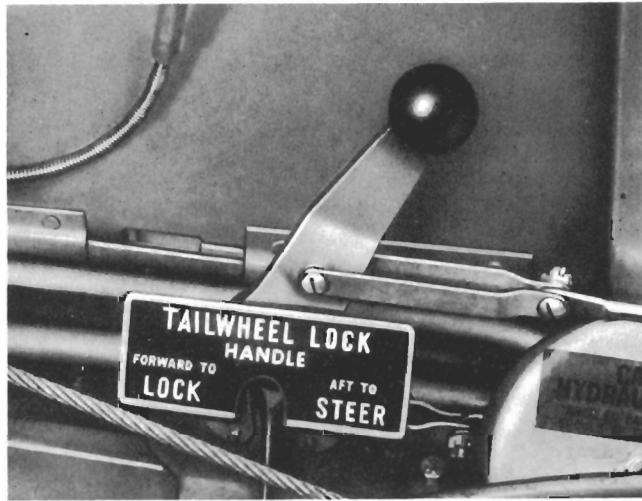

Figure 11—Tail Wheel Lock
(10) TAIL WHEEL LOCK.—The retractable tail wheel may be interconnected with the rudder for control in taxiing by means of a lever on the floor at the right of the pilot's seat. When the lever (figure 11) is placed in the forward position, the tail wheel is locked and disconnected from the rudder pedals. When the tail wheel is lowered after flight, it automatically falls into the locked position. P-47C-1RE and subsequent models have provisions for locking and free swiveling only and are not steerable.